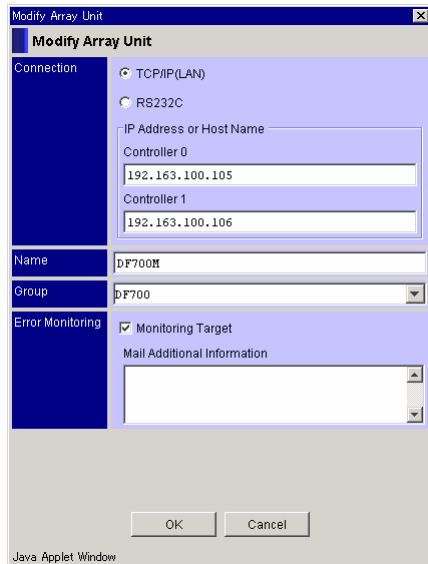

Figure 13.2 Modify Array Unit - Properties
1. In the **Properties** window of the subsystem, in the **Mail Additional Information** text box, enter the information in less than or equal to 64-byte characters. See Figure 13.2.